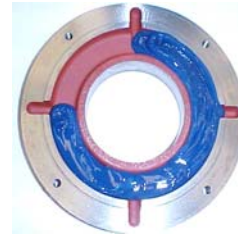

Figure 7.6: Outer bearing cap
- Fill up to ¾ of the inner and outer bearing cap deposits with the recommended grease (Figure 7.6) and lubricate the rolling bearing with enough grease before assembling it;